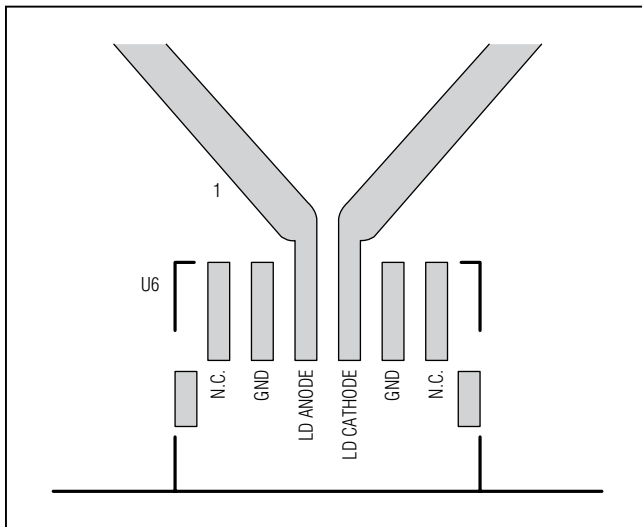

Figure 1. TOSA Connection
- 1) Solder a laser to U6. See Figure 1 for more information about the laser connection.